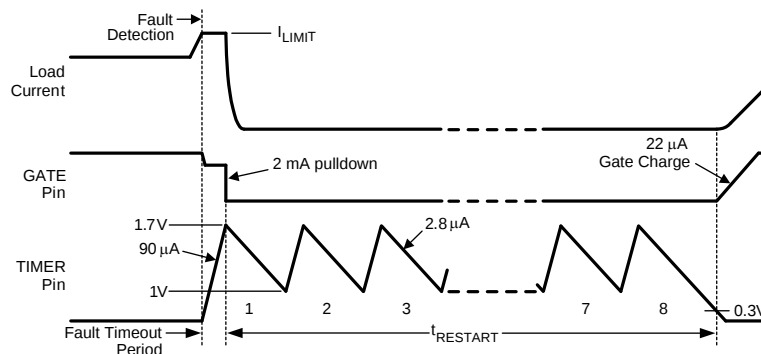

Figure 34. Restart Sequence
The LM25066I/A provides an automatic restart sequence which consists of the TIMER pin cycling between 1.7V and 1V seven times after the Fault Timeout Period, as shown in Figure 34. The period of each cycle is determined by the 90 μ A charging current, and the 2.8 μ A discharge current, and the value of the capacitor C_T . When the TIMER pin reaches 0.3V during the eighth high-to-low ramp, the 22 μ A current source at the GATE pin turns on Q_1 . If the fault condition is still present, the Fault Timeout Period and the restart sequence repeat. The $\overline{\text{RETRY}}$ pin allows selecting no retries or infinite retries. Finer control of the retry behavior can be achieved through the DEVICE_SETUP (D9h) register. Retry counts of 0, 1, 2, 4, 8, 16 or infinite may be selected by setting the appropriate bits in the DEVICE_SETUP (D9h) register.
C) Restart Timing - For the LM25066I/A, after the Fault Timeout Period described above, C_T is discharged by the 2.8 μA current sink to 1V. The TIMER pin then cycles through seven additional charge/discharge cycles between 1V and 1.7V as shown in Figure 34. The restart time ends when the TIMER pin voltage reaches 0.3V during the final high-to-low ramp. The restart time, after the Fault Timeout Period, is equal to: